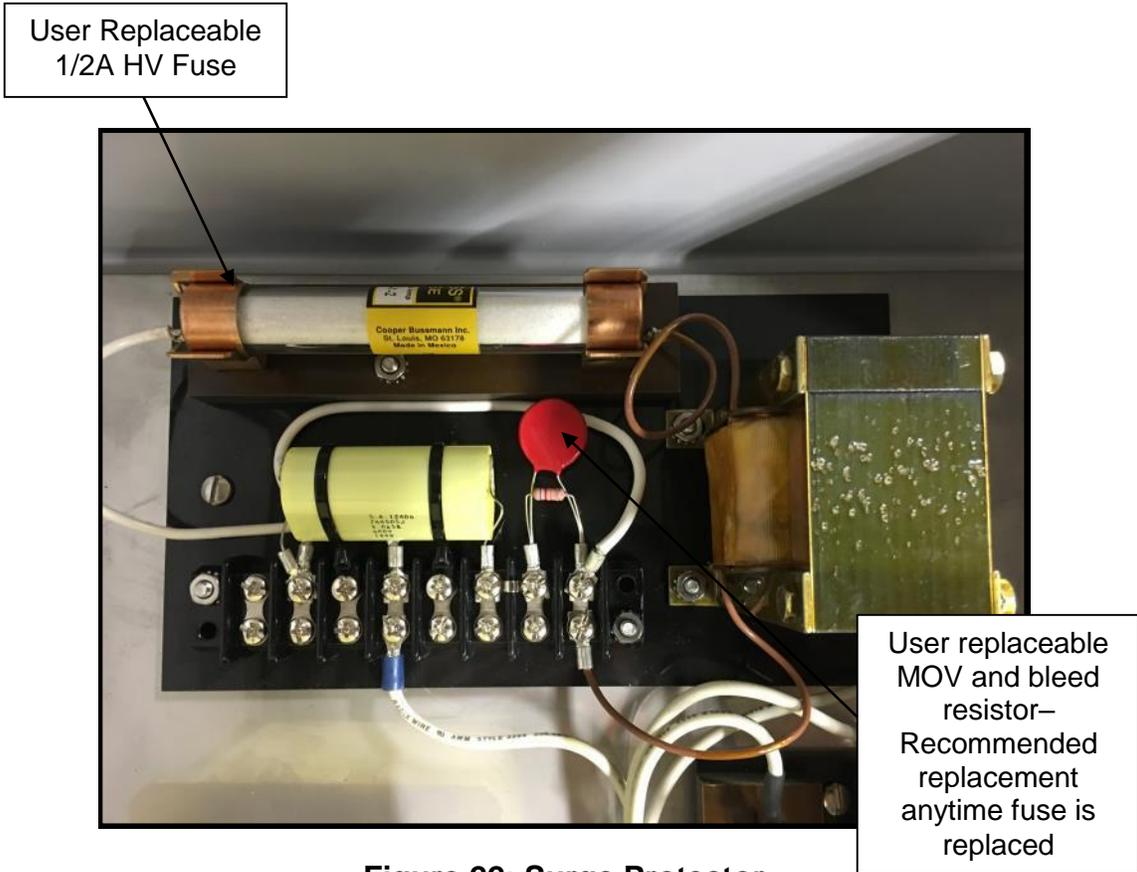
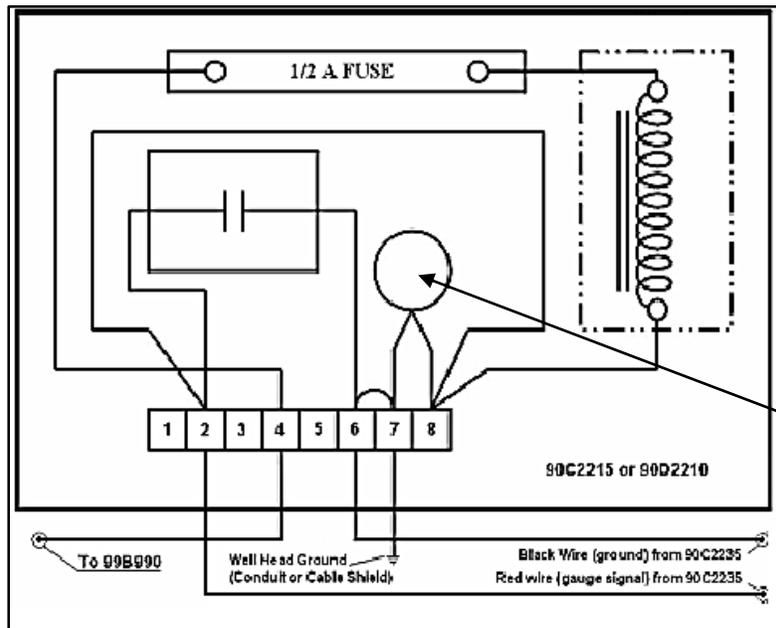

Figure 22: Surge Protector
Figure 23: Surge Protect Schematic and Connection
The Surge Panel (**FIGURE 22**) provides protection for the ESP Surface Interface equipment from several failures including; overvoltage from imbalance, transient voltage pulses, and switching spikes.
Surge Protector/Fuse Block Connections 1 – 8 (*FIGURE 23*)
4. Reference *FIGURE 22* & *FIGURE 23* to see the electrical connections.